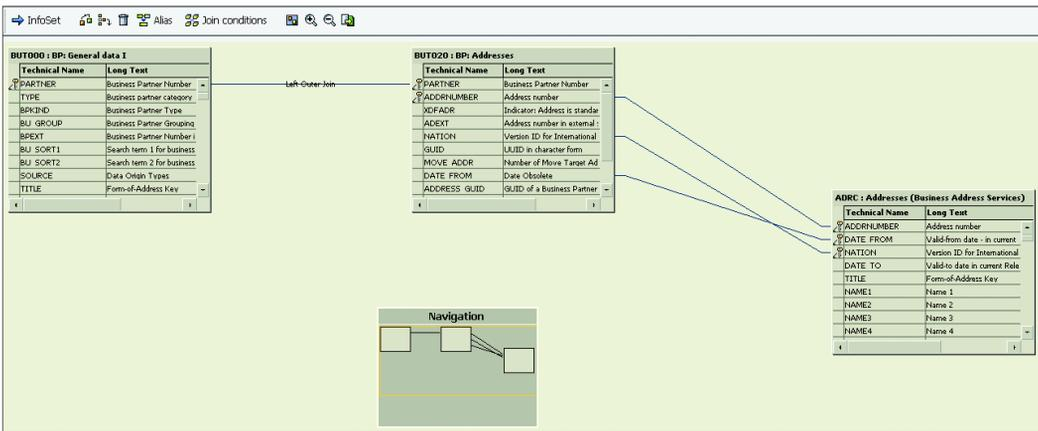

Figure 5.59 Business Partner Table Joins
3. In the next screen, the table joins business partner table BUT000 to the business partner address table BUT020 and eventually to the ADRC table that contains the REGION field (see Figure 5.59).